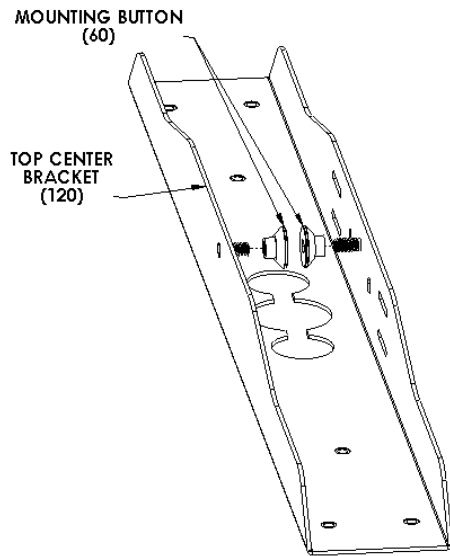

Figure 13. Assemble Top Center Bracket
1. Locate the top center bracket (120) and the other two mounting buttons (60). See Figure 13.
2. Install the two mounting buttons onto the threaded studs on the top center bracket (120). Tighten both mounting buttons.